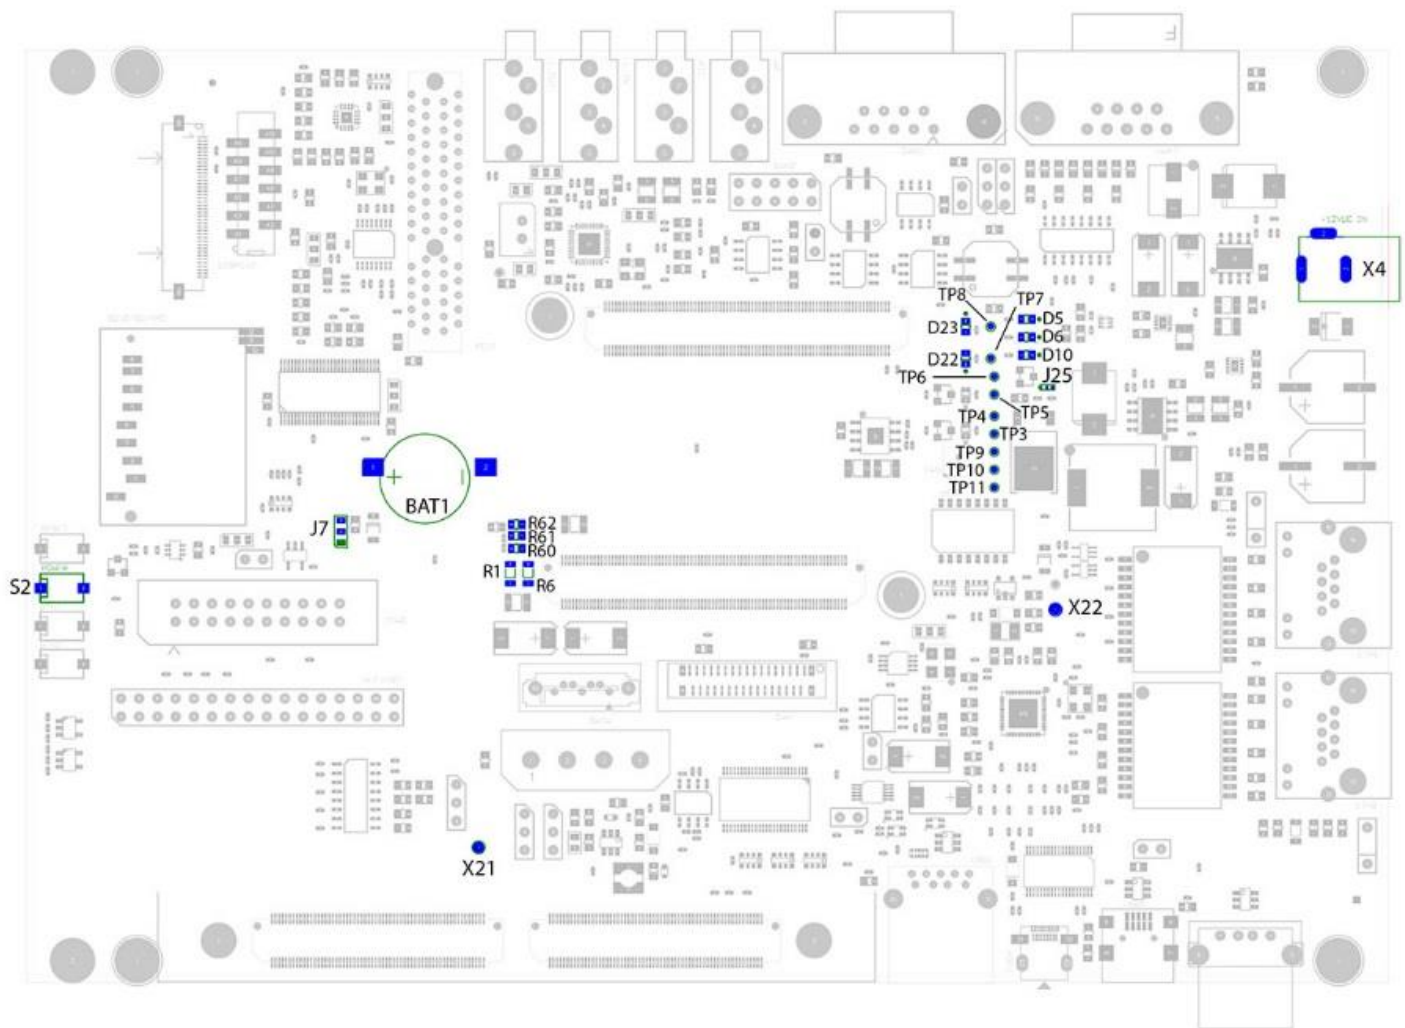

Figure 12. Power Scheme
The power supply rails can be measured through several test pads (TP) present on the Carrier Board as shown in Figure 12. These test pads are described in detail in Table 21.
The Carrier Board provides 5 status LEDs for the main power supply rails: D5, D6, D10, D22, and D23. The location of these LEDs on the carrier board is shown in Figure 12. The LEDs will turn on when their respective power supply rails are powered on. The power supplies these LEDs represent are shown in Table 22.